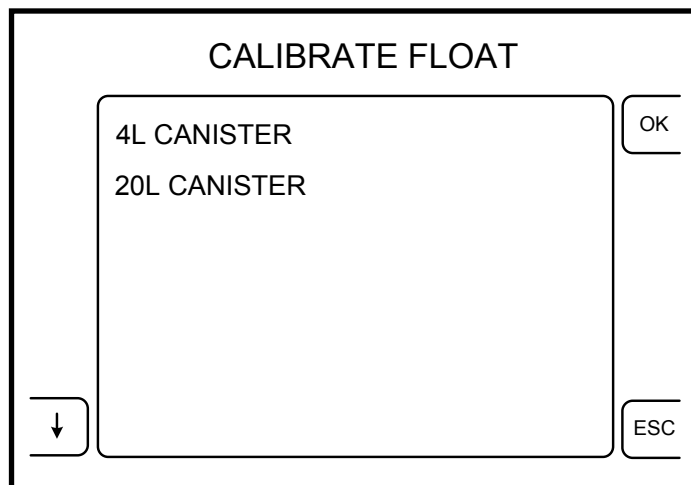

Figure 10: Select Canister to Calibrate
26. If only one canister was calibrated, the technician only needs to complete the remainder of this procedure for that canister. Select either the 4L CANISTER or the 20L CANISTER option from the calibrate float menu (see figure 10).